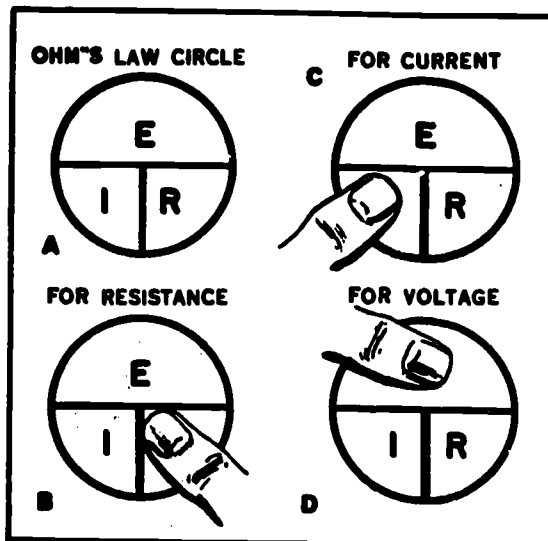

Fig 1-8. Ohm's law circle.
If you look at figure 1-8, A, you will see the Ohm's law circle, which may better help you to remember the previous equations. To use this circle, just place your thumb over the unknown value and it will show you what you must do to obtain the unknown value. As you progress through this course of study you will need them.
A circuit has an applied voltage (E) of 120 volts and a resistance (R) of 20 ohms. To find the current flow (I), simply apply Ohm's law (refer to fig 1-8, C) in the following manner:
If a circuit has an applied voltage (E) of 120 volts and a current flow (I) of 2 amperes, the resistance (R) is determined by the following application of Ohm's law (refer to fig 1-8, B):
To find the applied voltage (E) of a circuit if the current (I) and resistance (R) are known, find the product of the current (I) and resistance (R) as follows (refer to fig 1-8, D):
As was stated previously, there is a very definite relationship between current, voltage, and resistance of any circuit. You should know how to compute for each of them with the aid of Ohm's law (refer to fig 1-8 A, B, C, D).